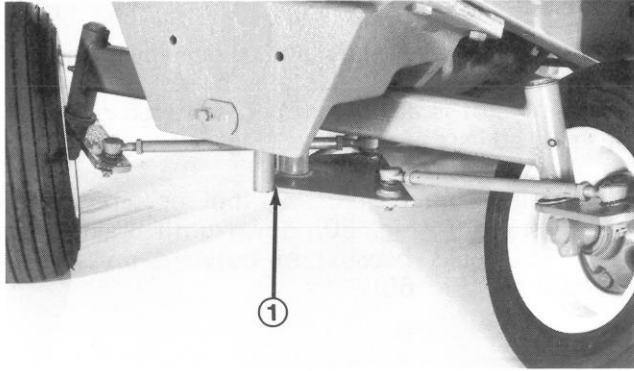
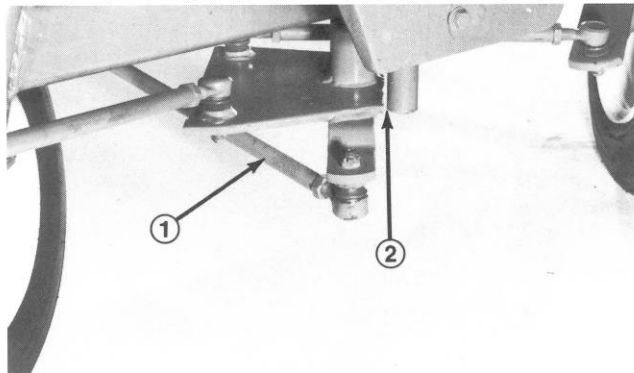

Figure 55
Figure 56
4. Turn steering wheel completely to the right until it bottoms out in steering gear box. Check steering plate with respect to stop on rear axle pivot (Fig. 55). Steering plate must contact the stop. If parts do not contact, loosen jam nuts on rear steering rod (Fig. 56). Shorten the rear steering rod until steering plate contacts the stop while steering wheel is locked for a full right turn (Fig. 55).
5. Turn steering wheel completely to the left until it bottoms out in steering gear box. Check steering plate with respect to the stop on the rear axle plate (Fig. 56). There should be a maximum gap of approximately 1/4" (6mm) between the stop and steering plate.